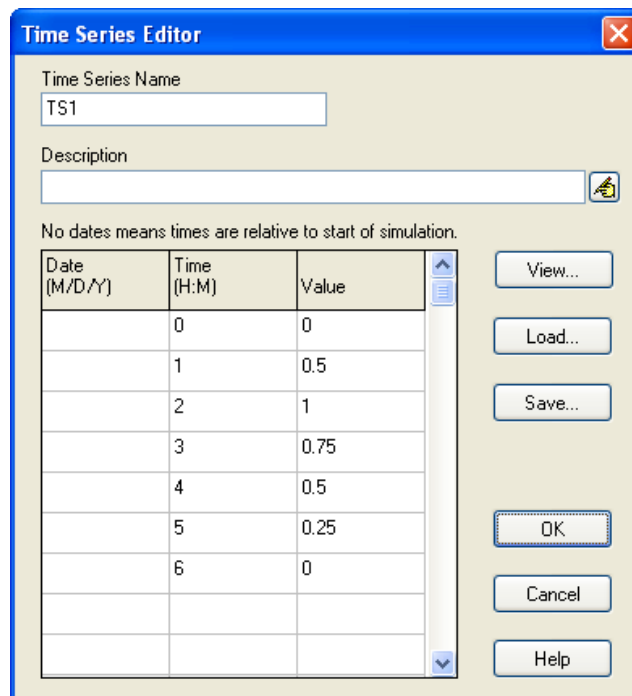

Figure 2-7. Time Series Editor dialog.
2. Click the **+** button on the Browser to bring up the Time Series Editor dialog (see Figure 2-7)⁷.
4. Enter the values shown in Figure 2-7 into the *Time* and *Value* columns of the data entry grid (leave the *Date* column blank⁸).